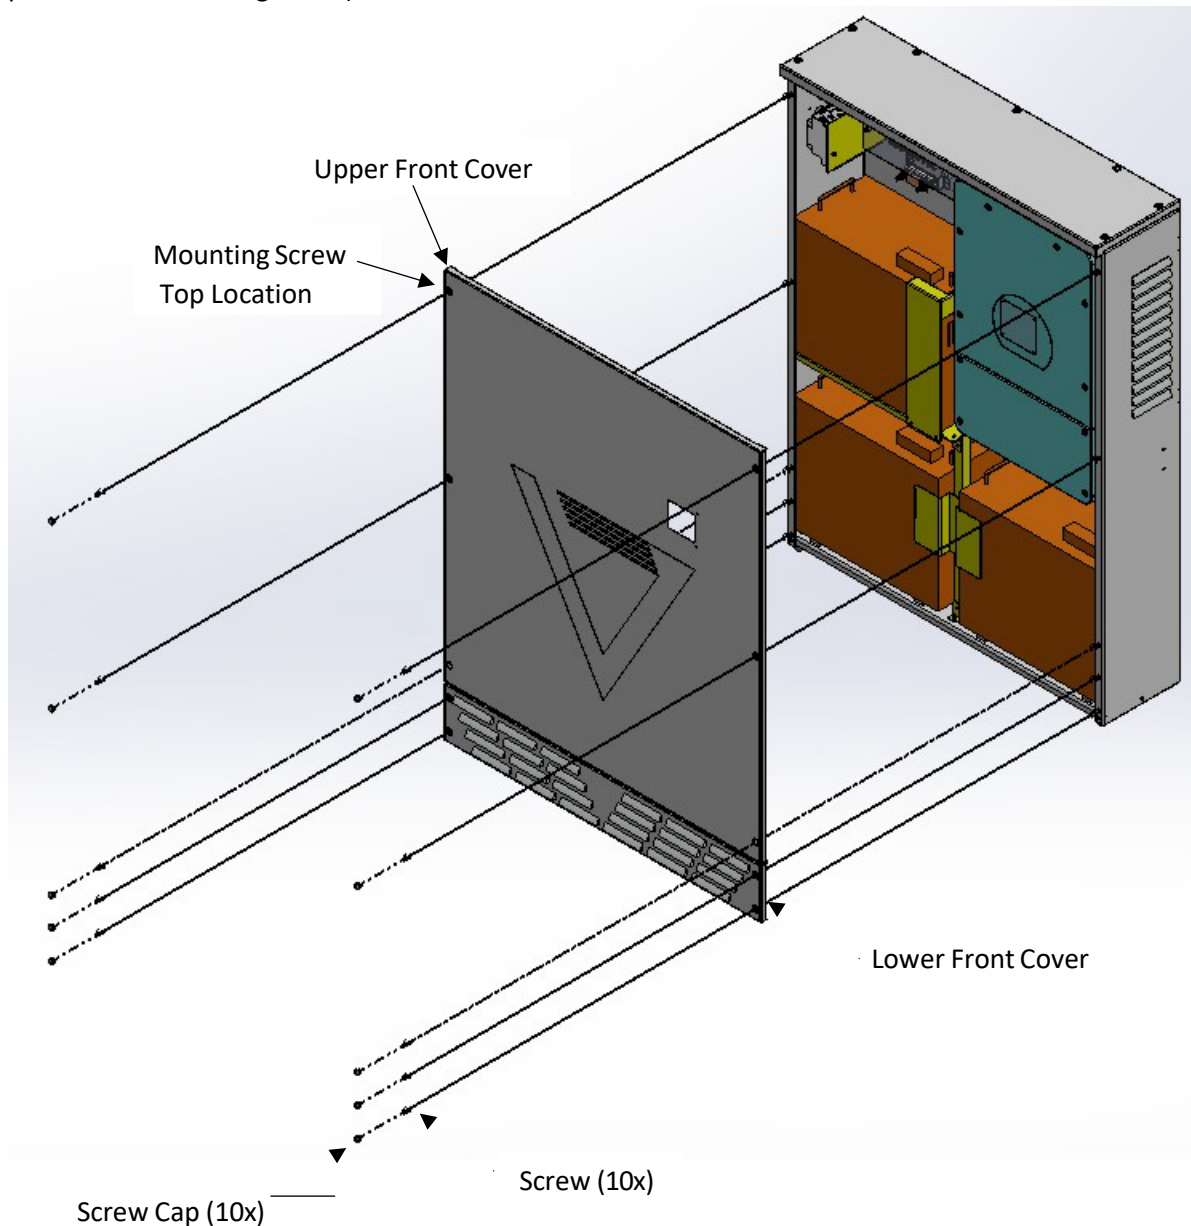

Figure 22
1. Install lower front cover (see Figure 22).
2. Install upper front cover by placing mounting screws on top location then on bottom location and lastly on the middle location. Place screw caps on each mounting location (see Figure 22).
3. Once everything has checked out, place white screw caps on each front mounting location (10 places as shown in Figure 22).